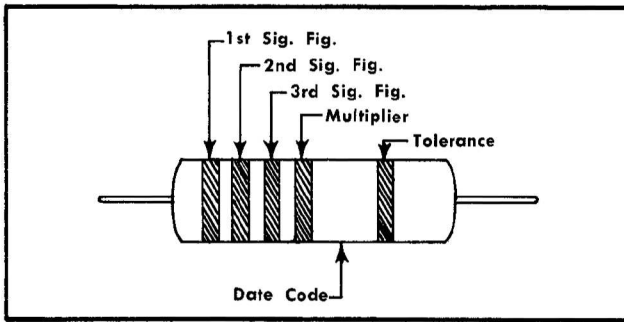

Fig. 4-2. Color coding of metal-film resistors.
**Resistor Color-Code.** Some stable metal-film resistors are used in this instrument. These resistors can be identified by their gray body color. If a metal-film resistor has a value indicated by three significant figures and a multiplier, it will be color-coded according to the EIA standard. If it has a value indicated by four significant figures and a multiplier, the value will be printed on the body of the resistor. For example, a 333 k resistor will be color-coded, but a 333.5 k resistor will have its value printed on the resistor body. The color coding sequence is shown in Fig. 4-2 and Table 4-1.